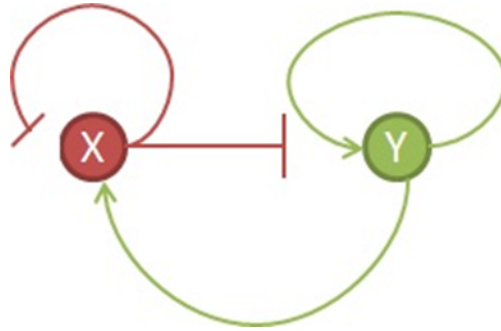

Fig. 1: A model transcriptional regulatory network
1.2. List the corresponding *PARTS* of this system and provide one possible mathematical representation of these parts. Draw a boundary around the respective parts on figure 1 itself.